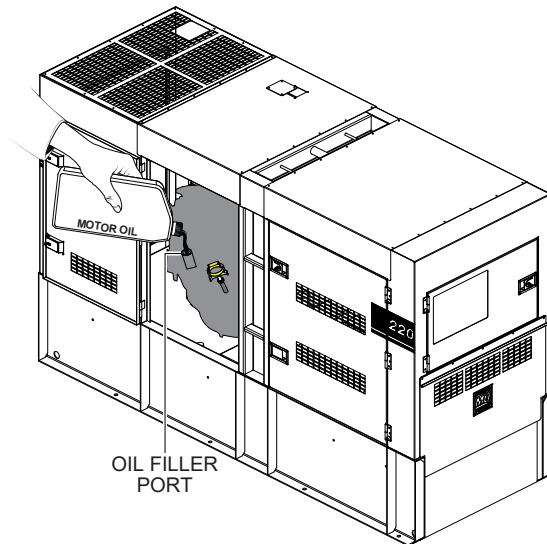

**Figure 25. Engine Oil Level**
3. Reinsert the dipstick, then remove the dipstick from its holder. Check the oil level shown on the dipstick (Figure 25).